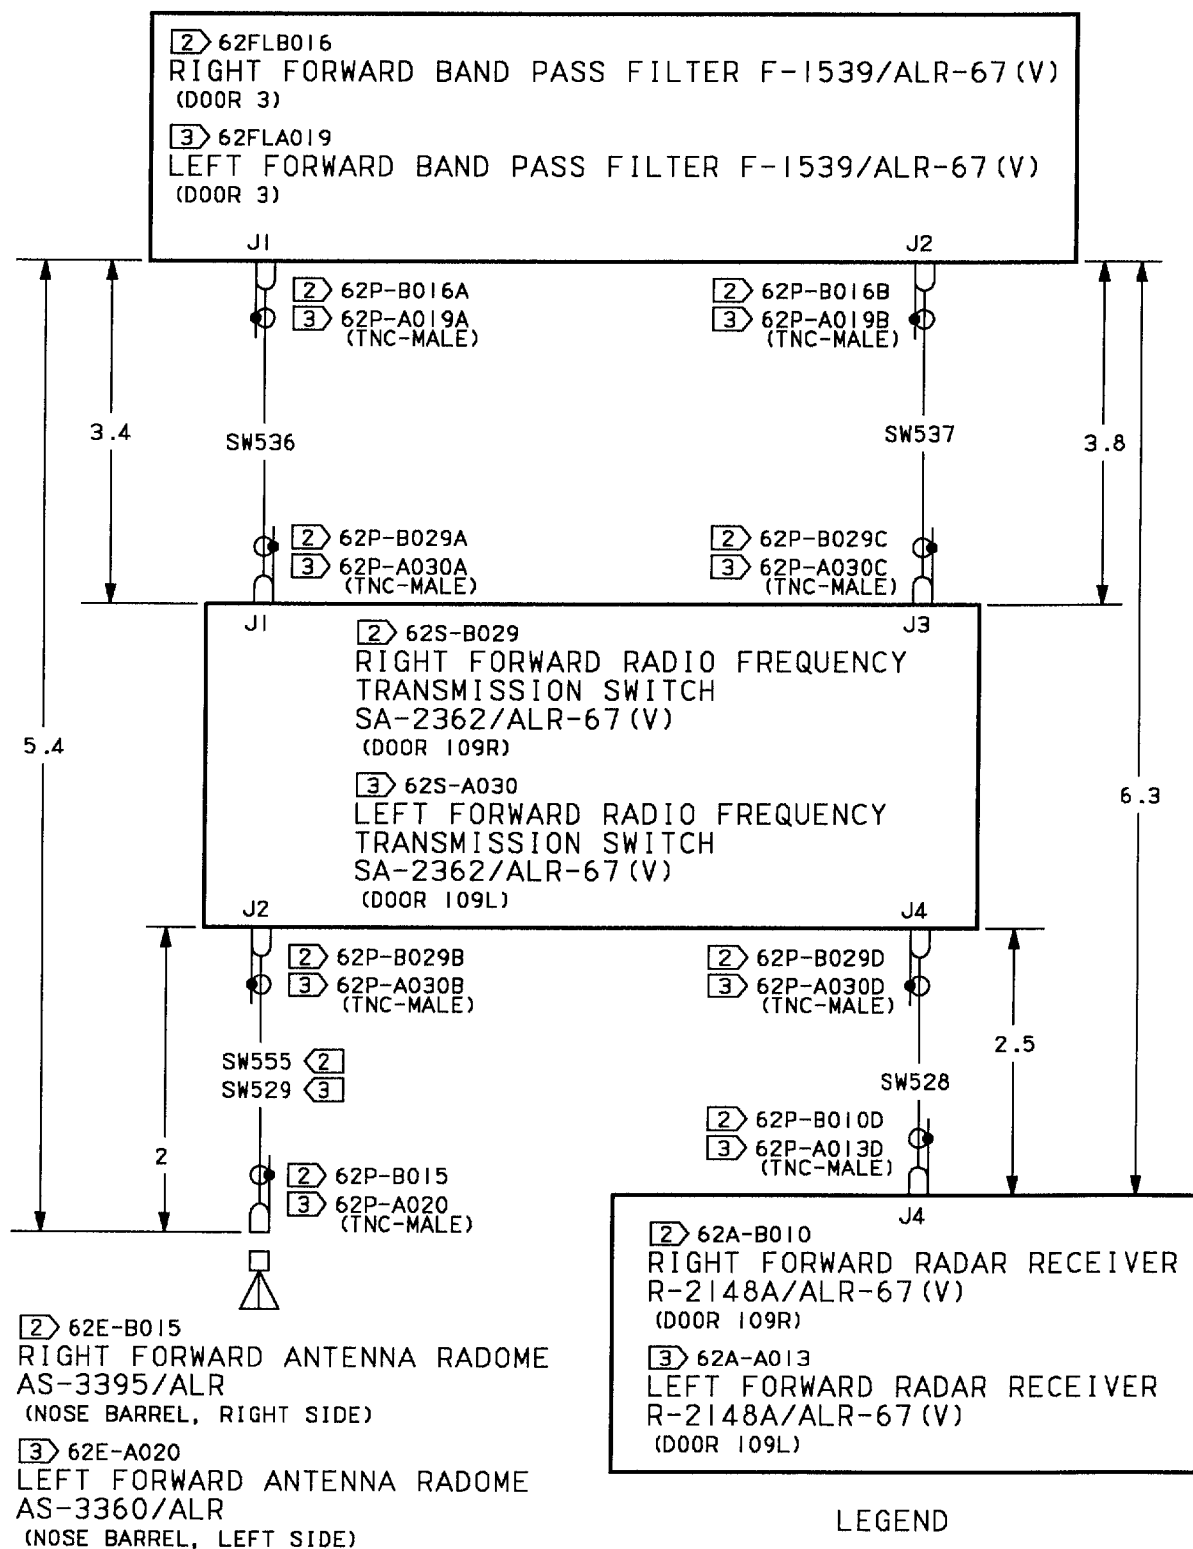

Figure 1. Forward High Band RF Circuits
Forward High Band RF Circuit, Figure 1, must be used with this procedure.
(1) Extend Radar Set AN/APG-65 (A1-F18AC-742-300, WP003 00).
(2) In door 3, remove lockwire and disconnect 62P-A019A from J1 on left forward Band Pass Filter F-1539/ALR-67(V).
(3) Use figure 1 for length, and do Fault Location (WP020 00) on weapon replaceable assemblies (WRAs) from 62P-A020 to 62P-A019A.
(4) Does unit under test indicate a fault? .....	b	i
(1) In door 3, remove lockwire and disconnect 62P-A019B from J2 on left forward Band Pass Filter F-1539/ALR-67(V).
(2) Use figure 1 for length, and do Fault Location (WP020 00) on WRAs from 62P-A019B to 62P-A013D.
(3) Does unit under test indicate a fault? .....	c	d
(1) In door 109L, remove lockwire and disconnect 62P-A030C (blue) from J3 on left forward Radio Frequency Transmission Switch SA-2362/ALR-67(V).
(2) Use figure 1 for length, and do Fault Location (WP020 00) on ALR-67 Coax Cable SW537.
(3) Does unit under test indicate a fault? .....	f	e
(1) In door 109L, remove lockwire and disconnect 62P-A030D (gray) from J4 on left forward Radio Frequency Transmission Switch SA-2362/ALR-67(V).
(2) Use figure 1 for length, and do Fault Location (WP020 00) on ALR-67 Coax Cable SW528.
(3) Does unit under test indicate a fault? .....	g	h
(1) In door 109L, remove lockwire and disconnect 62P-A030A (green) from J1 on left forward Radio Frequency Transmission Switch SA-2362/ALR-67(V).
(2) Use figure 1 for length, and do Fault Location (WP020 00) on ALR-67 Coax Cable SW536.
(3) Does unit under test indicate a fault? .....	k	j
(1) In door 109L, remove lockwire and disconnect 62P-A030B (brown) from J2 on left forward Radio Frequency Transmission Switch SA-2362/ALR-67(V).
(2) Use figure 1 for length, and do Fault Location (WP020 00) on ALR-67 Coax Cable SW529.
(3) Does unit under test indicate a fault? .....	g	l